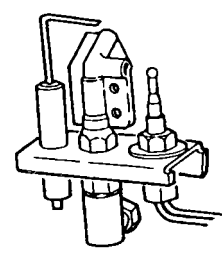

Fig. 12a Pilot/A.S.D. Assembly
6. PILOT/A.S.D. ASSEMBLY (Fig. 12a)